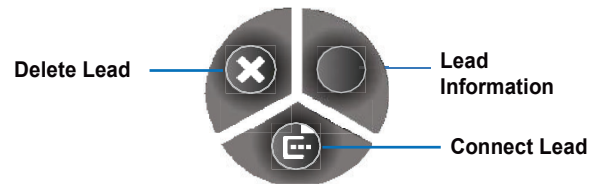

Figure 12. Lead Edit menu
- a. Tap the lead on the sacral model. The Lead Edit menu displays (Figure 12).